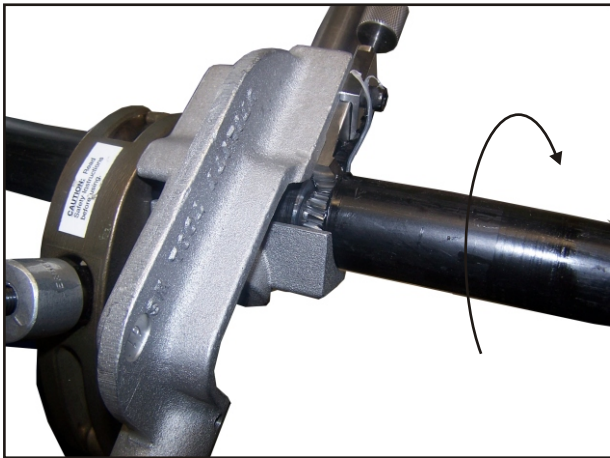

Fig 3: Step 7 - Conductor is exposed on last channel cut.
7. Repeat steps 6A and 6B to create a channel, always observing the cable. Only remove small segments of insulation at a time by dropping the blade depth only 2-3 knob revolutions. Once the conductor is exposed, you have reached the appropriate blade depth. (Fig. 3)